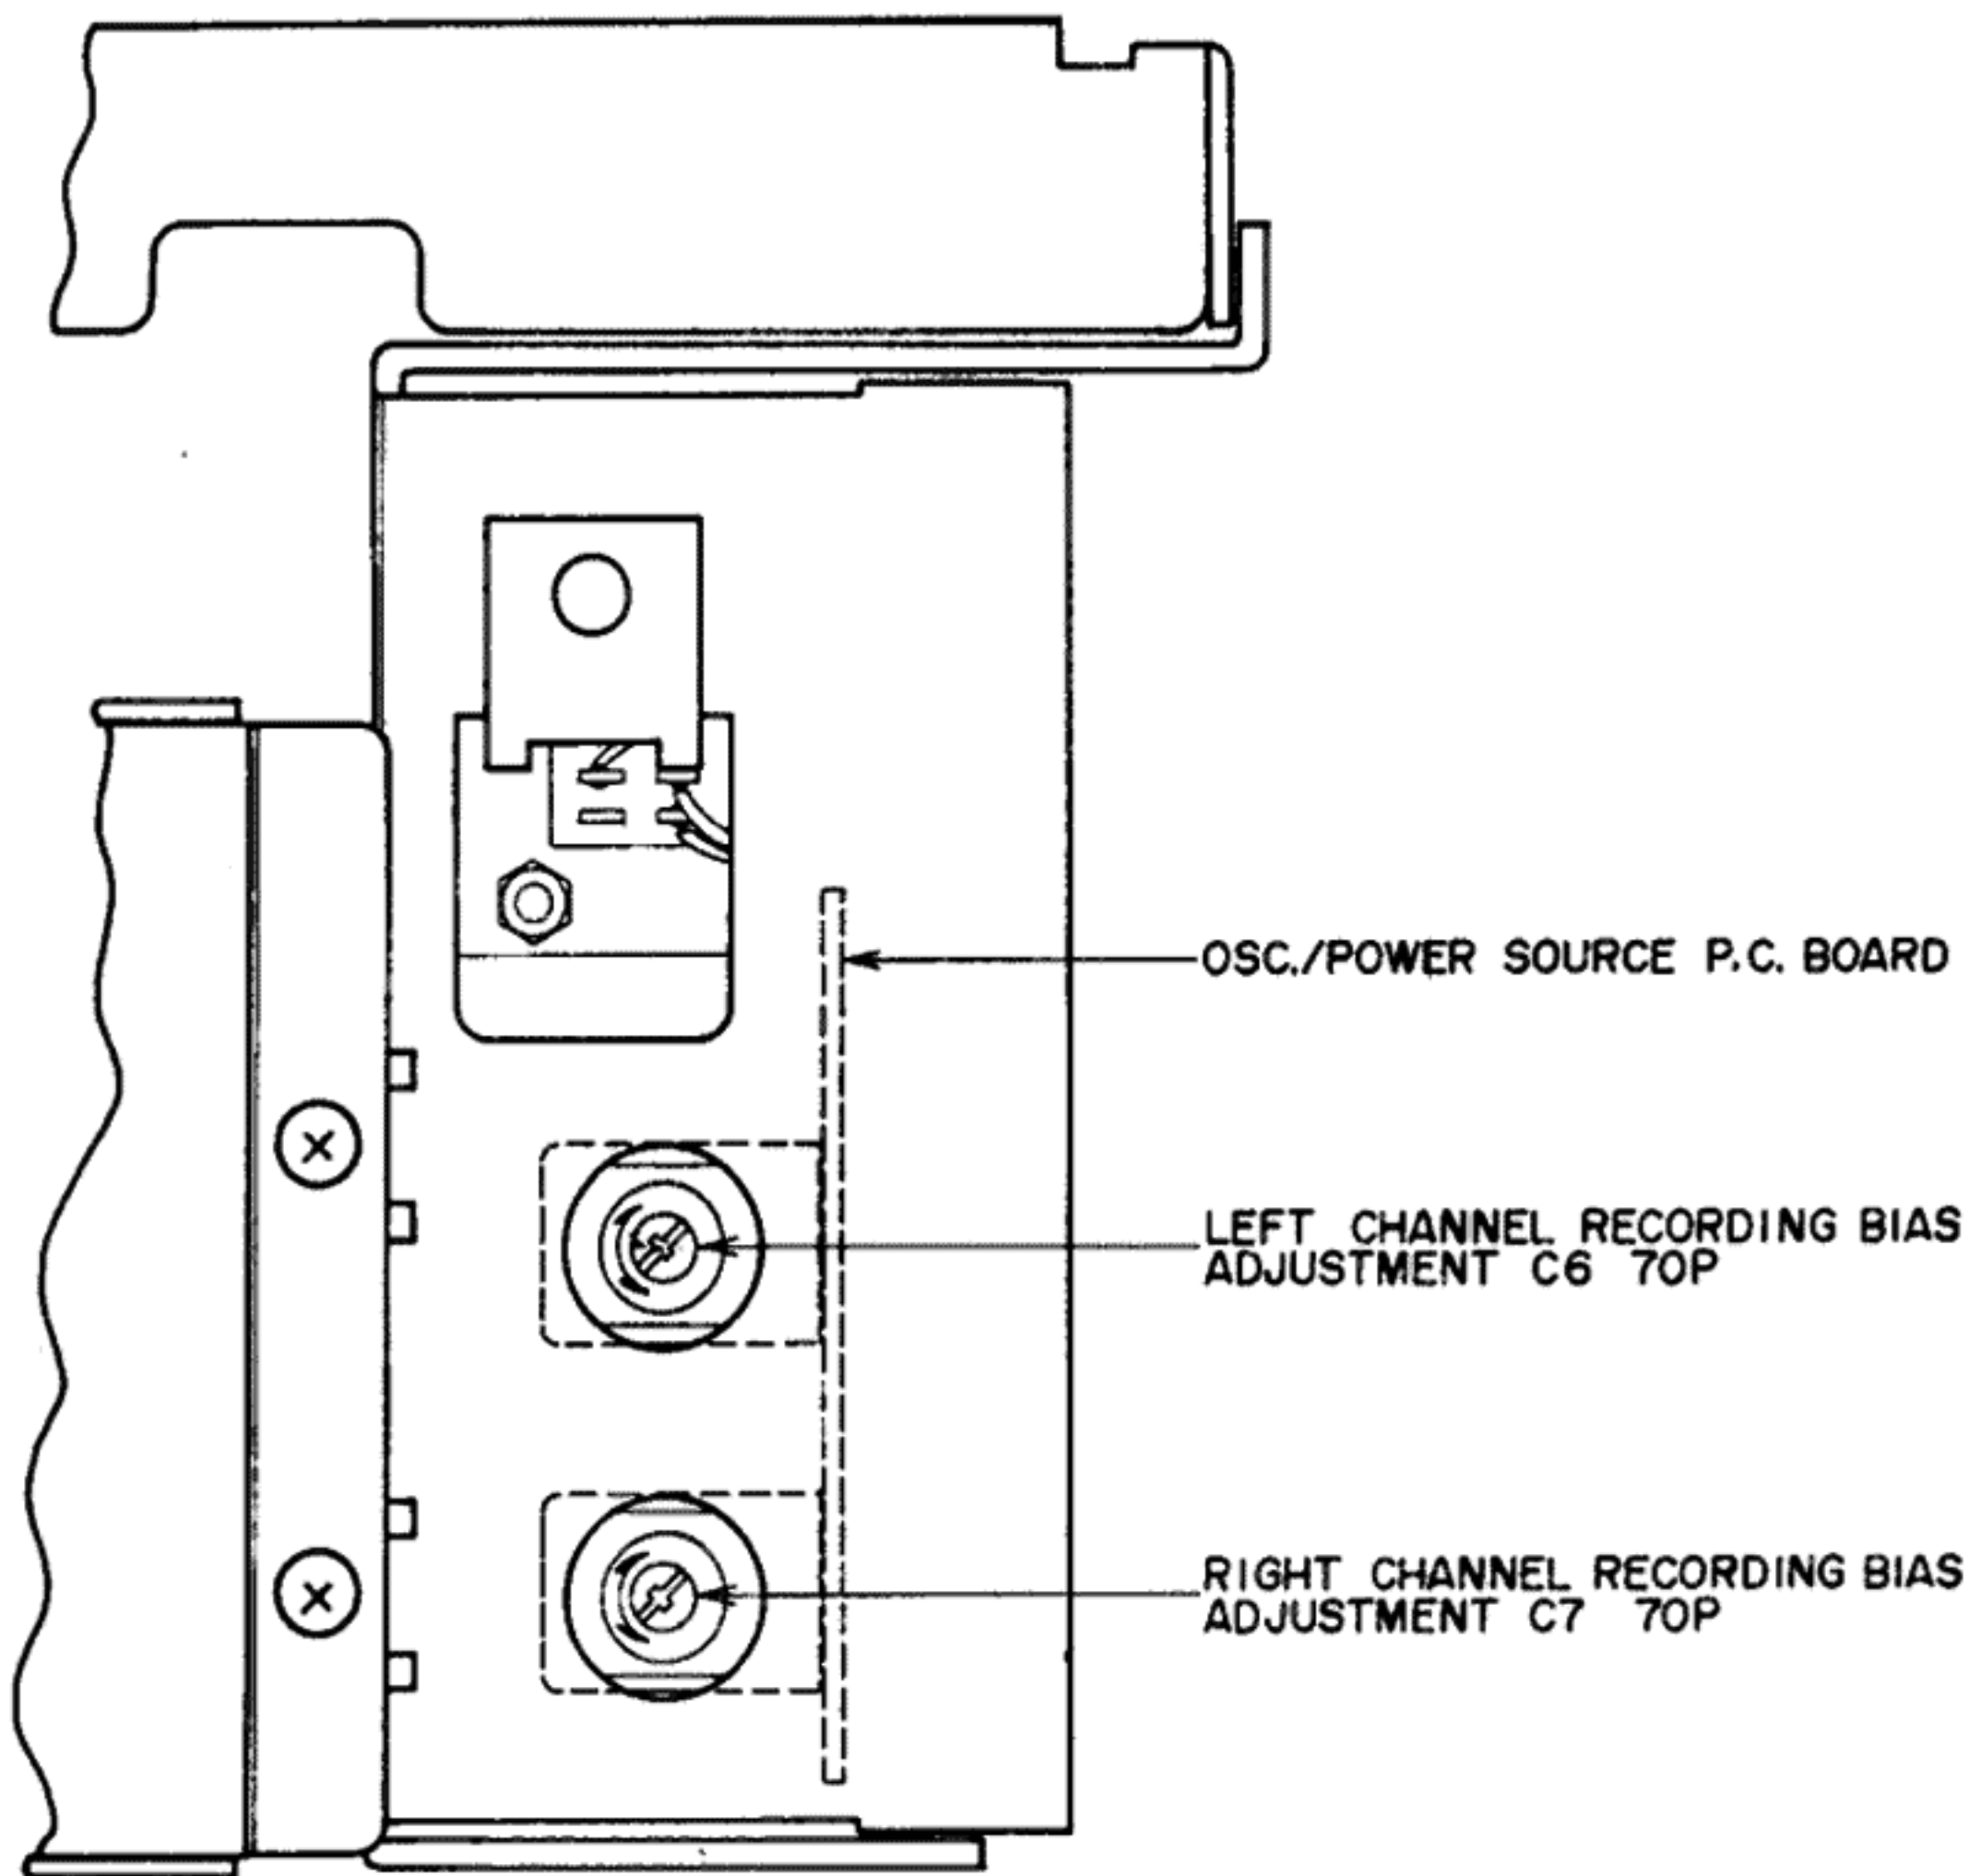

Fig. 21
(Recording Bias Adjustment) (See Fig. 21)
- 6) Switch the oscillation frequency of the Audio Frequency Oscillator to and from 2,000 and 20,000 Hz and adjust Osc./Power Supply P.C. Board trimmer condensers C6 70P (left channel) and C7 70P (right channel) shown in Fig. 21 so that the difference in line output level between 2,000 and 20,000 Hz is 0.5 to 1.5 dB. (2,000 Hz/-20 dBm, 20,000 Hz/-19.5 to -18.5 dBm).